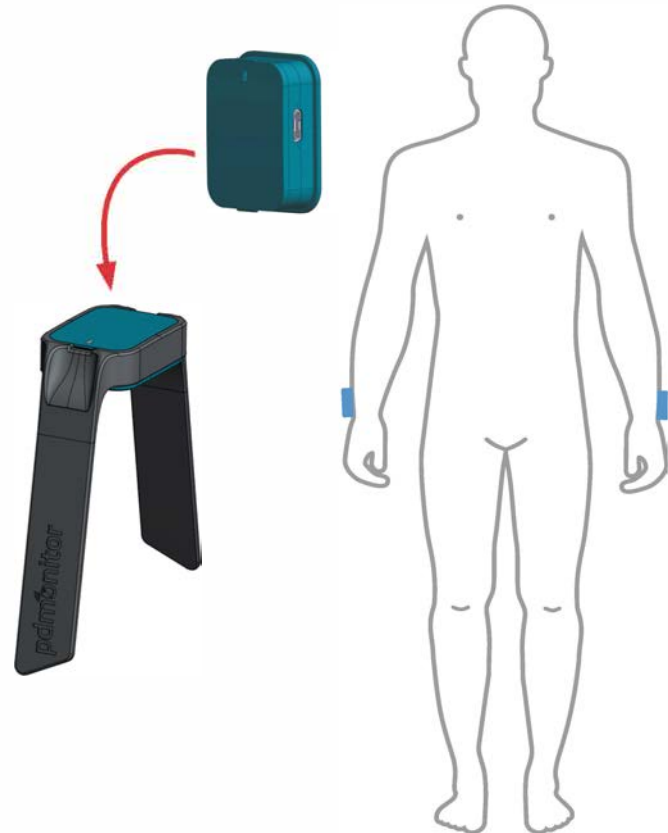

Figure 12. PDMonitor® Monitoring Devices on wrists
- Put the two Monitoring Devices using the appropriate wristbands on the left and right wrist as shown in Figure 12